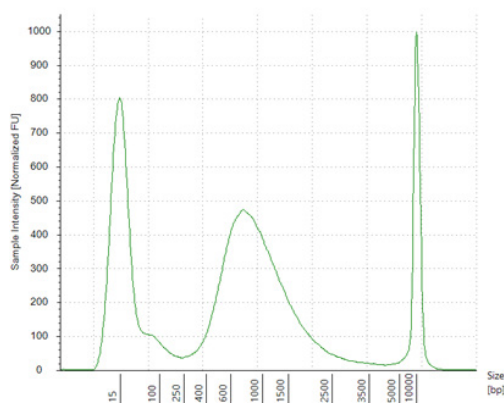

Figure 4: Typical size distribution of purified cDNA (obtained using Agilent TapeStation High sensitivity D5000).
For controlling sample quality, we recommend running your amplified barcoded DNA on Agilent TapeStation. Depending on the yield measured by Qubit, use either High sensitivity (HS) D5000 (detection from 10 to 1,000 pg/ μ L) or D5000 (detection from 0.1 to 50 ng/ μ L), or proper dilutions, to control for amplified DNA size distribution. Typical profile shows a distribution ranging from 250 to 3000 bp, centered around 600-900 bp (See **Figure 4**).